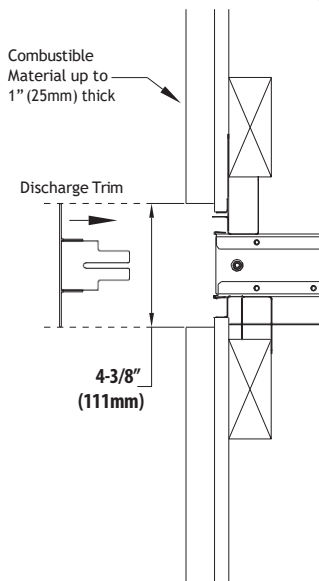

FIGURE 3.4 Combustible Finish Material up to 1" Thick
- See **FIGURE 3.4** on page 16 for up to 1" (25mm) thick combustible material installation around the discharge trim of the KZK air discharge opening.
- See FIGURE 3.4 on page 16 for up to 1" (25mm) thick combustible material installation around the discharge trim of the KZK air discharge opening.